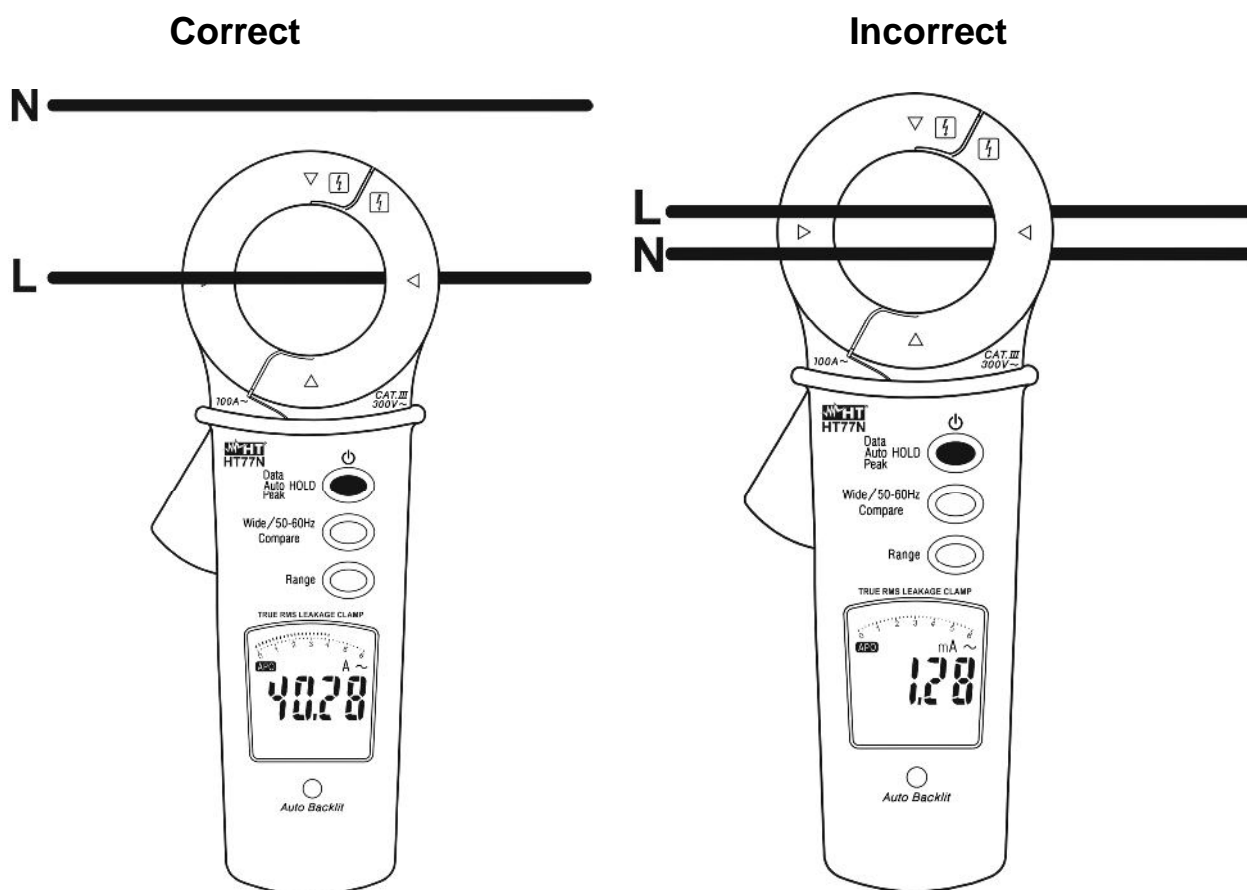

Fig. 3: Use of the clamp for AC current measurement
3. Open the clamp jaw and insert the cable in the middle of it (see Fig. 3). The current value will be shown on the display